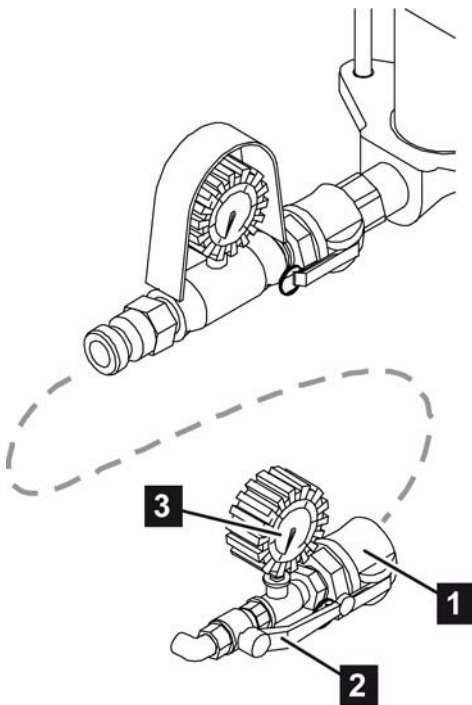

Fig. 73: Coupling the PFT pressure tester
3. Couple the PFT pressure tester (Fig. 73/1) to the end of the mortar pressure hose.
4. Open the drain cock (Fig. 73/2) on the PFT pressure tester.
6. Close the drain cock (Fig. 73/2) on the PFT pressure tester. The pump will now build up pressure against the closed drain cock on the PFT pressure tester. Let the pump run until the pressure no longer increases.
7. Check the delivery pressure on the manometer (Fig. 73/3) of the PFT pressure tester. It should show approximately 30 bar (435 psi)!
9. Check the back pressure on the manometer (Fig. 73/3) of the PFT pressure tester. The back pressure should be maintained at approximately 14 bar (203 psi) for the first several minutes after switching off.